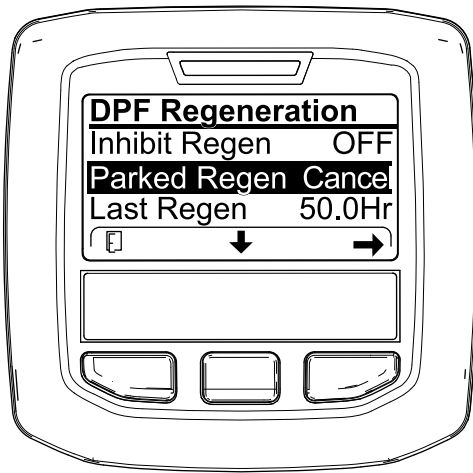
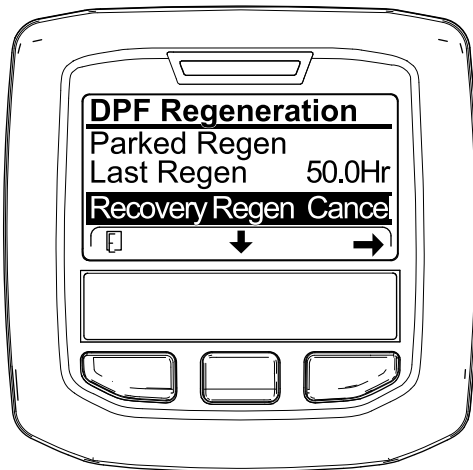

Figure 67
Figure 68
1. Access the DPF Regeneration menu (Figure 67).
2. Press the center button to scroll down to the PARKED REGEN CANCEL (Figure 67) or the RECOVERY REGEN CANCEL option (Figure 68).
3. Press the right button to select the Regen Cancel entry (Figure 67 or Figure 68).